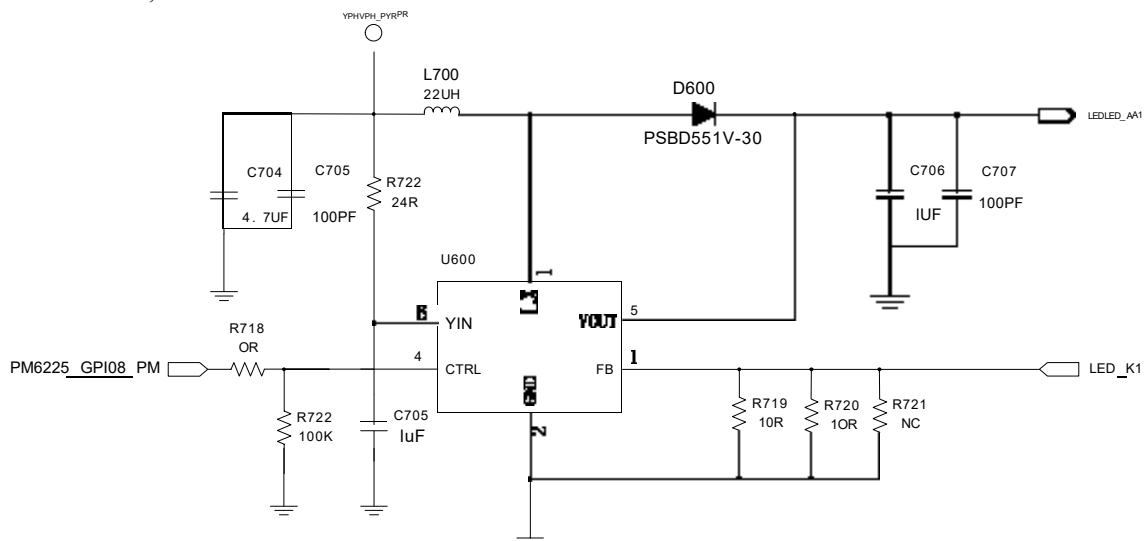

FIG. 4.15: External backlight circuit diagram
SLM927 does not support backlight driver output, customers need to use an external backlight driver. The backlight driver circuit can be referred to Figure 4.15. The brightness of backlight can be adjusted through PWM/PM6225_GPIO8 (44) of the module, and the modulation mode is PWM mode.